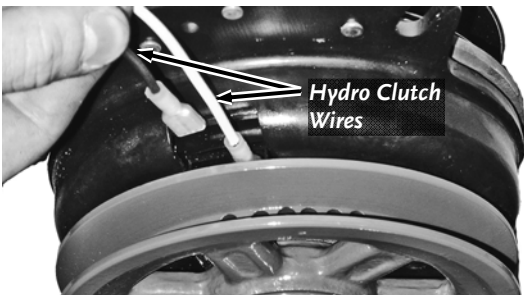

Figure 20
- Disconnect the Electrical Wires from the Clutch (**Figure 20**).